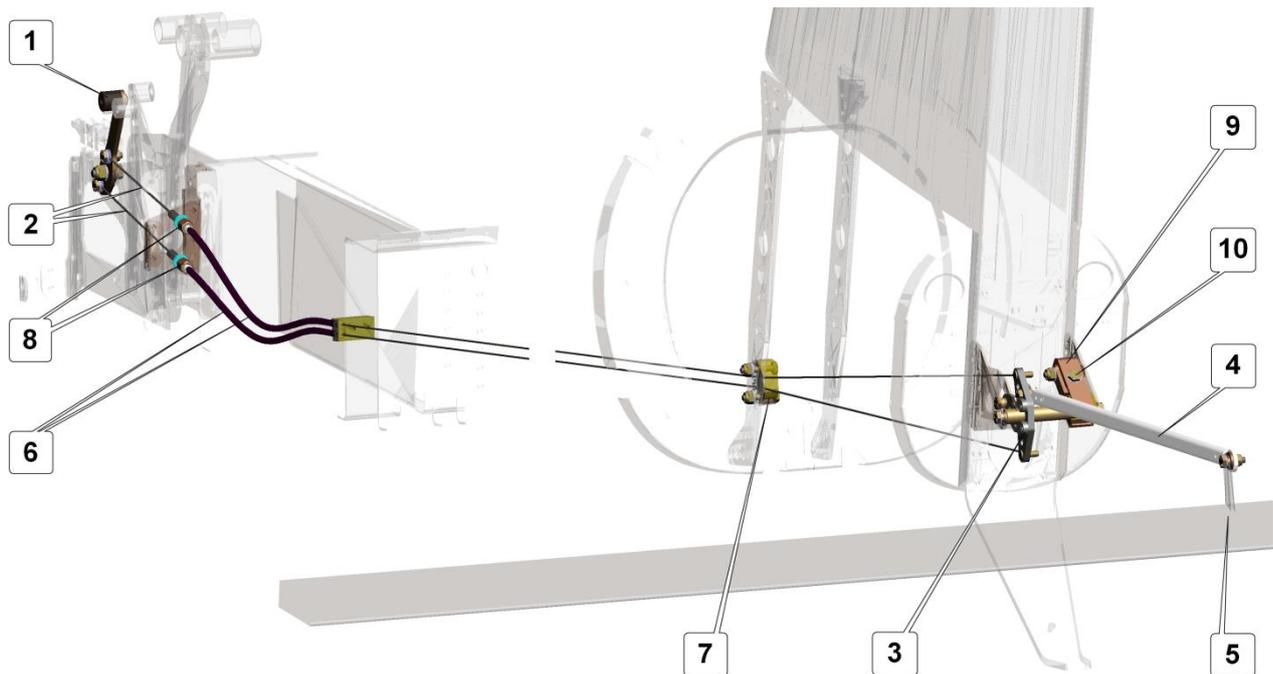

Fig. 5. AFHT anti-servo/trim tab control system
The AFHT anti-servo/trim tab control system (**Fig. 5**) is combined, it consists of a lever (1), two Ø1.5 mm (1/16 in) cables (2), a bellcrank (3), a friction clamp (9) and a rod (4).